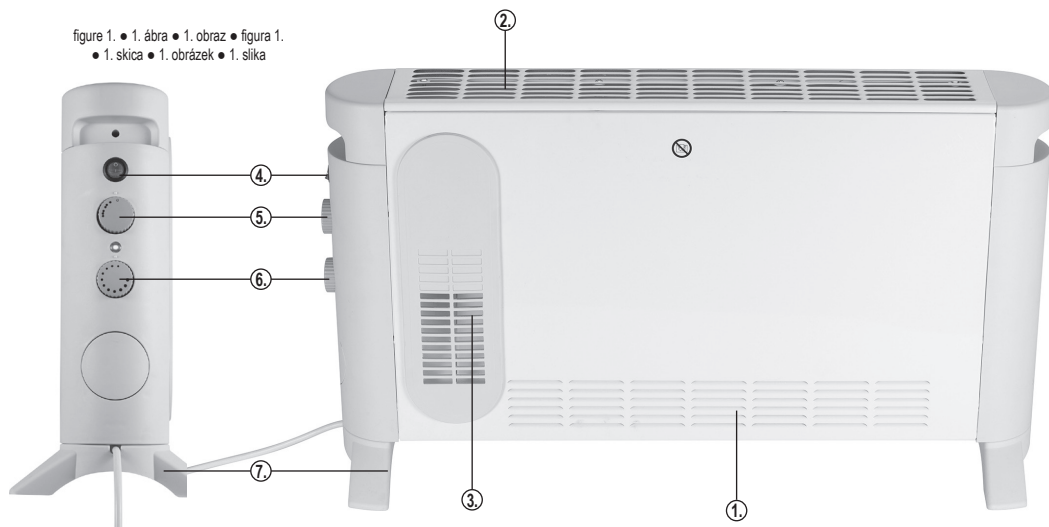

figure 2. • 2. ábra • 2. obraz • figura 2. • 2. skica • 2. obrázek • 2. slika
6. Never locate the unit directly in corners and observe the minimum installation distances indicated in Figure 2. Always observe the health and safety regulations valid in the country of use.
6. The free circulation of warm air must be ensured for proper operation, therefore, please note the minimum installation distances indicated in **Figure 2.**!